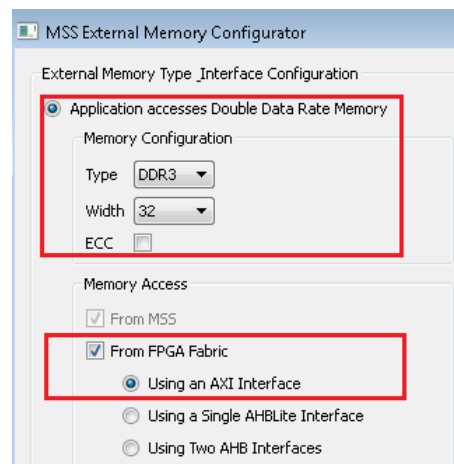

Figure 1-16 • MSS External Memory Configuration
3. Configure the MDDR and select the AXI interface, as shown in Figure 1-16. In this example, the design is created to access DDR3 memory with a 32-bit data width.